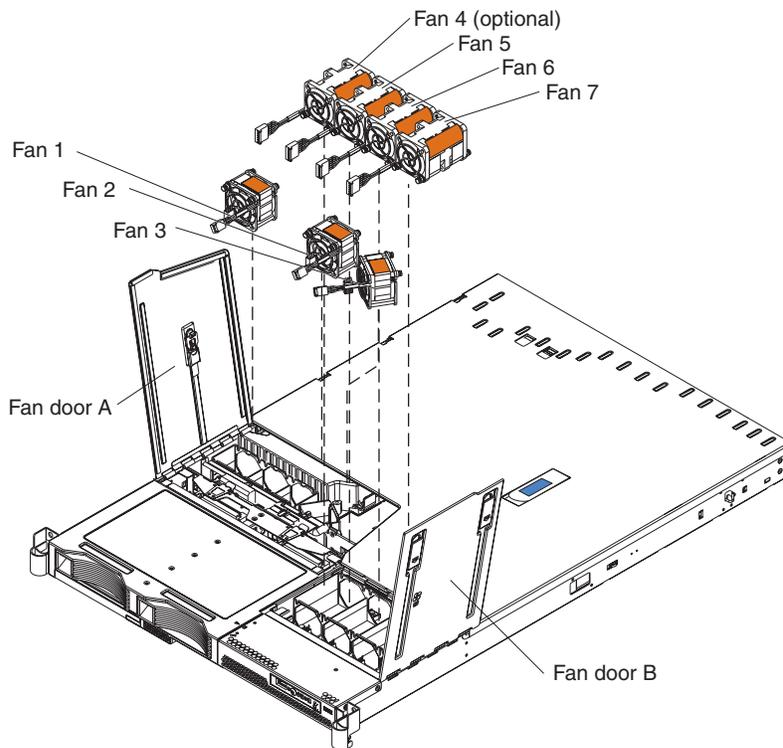

Figure 44. Hot-swap fan locations
- Figure 44 on page 60 shows the locations of the hot-swap fans.